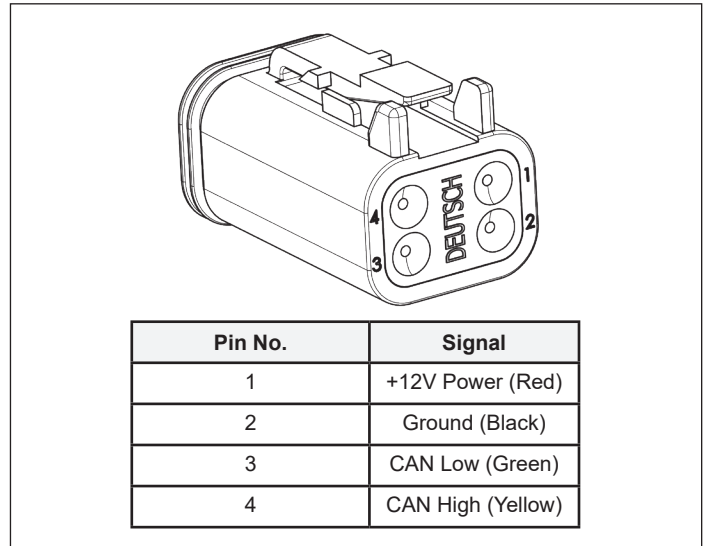

Figure 5 - Inserting the Wires
- Carefully push the terminal into the back of the provided 4-pin Deutsch connector. Ensure the crimped end does not have any sharp protrusions that could damage the silicone seal. See Figure 5 for the proper way to insert the wires.